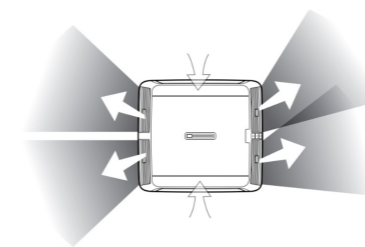

Fig 2.
**Symbol description of the top row of the status screen (Fig.2)**